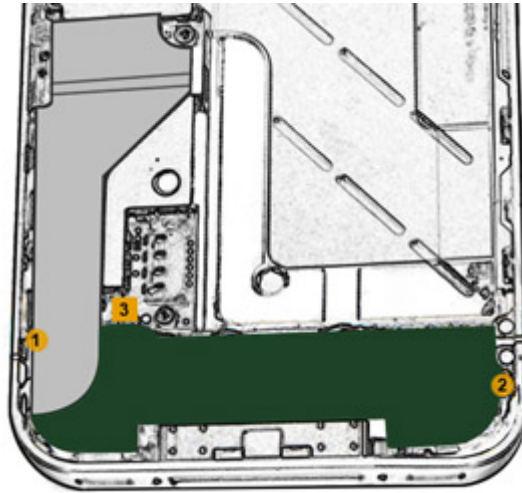

Figure 6
- Lift the ribbon cable (shown in gray color in figure 6) all the way up from the motherboard to expose one of the screws (shown as screw 1 in figure 6). Remove this screw as well as another screw (shown as screw 2 in above figure) on the speaker housing (shown in dark green color in the figure 6)) using a Phillips screwdriver.
- After removing the screws on the speaker housing, gently loosen up and lift the speaker housing (shown in dark green color in the figure 6) but do not lift it up completely because it will still be connected to the motherboard through a speaker connector wire at point 3 in figure 6. Carefully lift this connector up using the safe open pry tool to release the speaker assembly and put it aside.